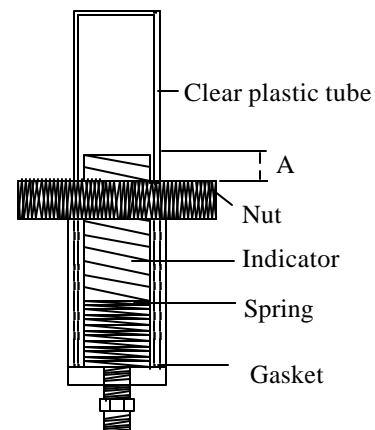

Fig.4
6. Remove nut fastening housing (Fig. 3&4) together. Set housing in bracket, place spring in housing (Fig.4). Next thread chain through spring and through red indicator tube. Having closed end (with chain connector) toward outside of building. This tube should be set with line showing on the tube even with outside of housing (A Fig. 4). This applies if tank is empty.
7. Slide transparent plastic tube over red indicator tube and spring and press same to end of housing (Fig. 4) over transparent plastic tube. Check to see that reading is correct.
8. If reading is incorrect re-adjust chain. Then cut off chain even with the end of the red indicator tube. Fasten chain connector. Fasten outside housing (Fig. 3) to inside housing (Fig. 4) with nut.